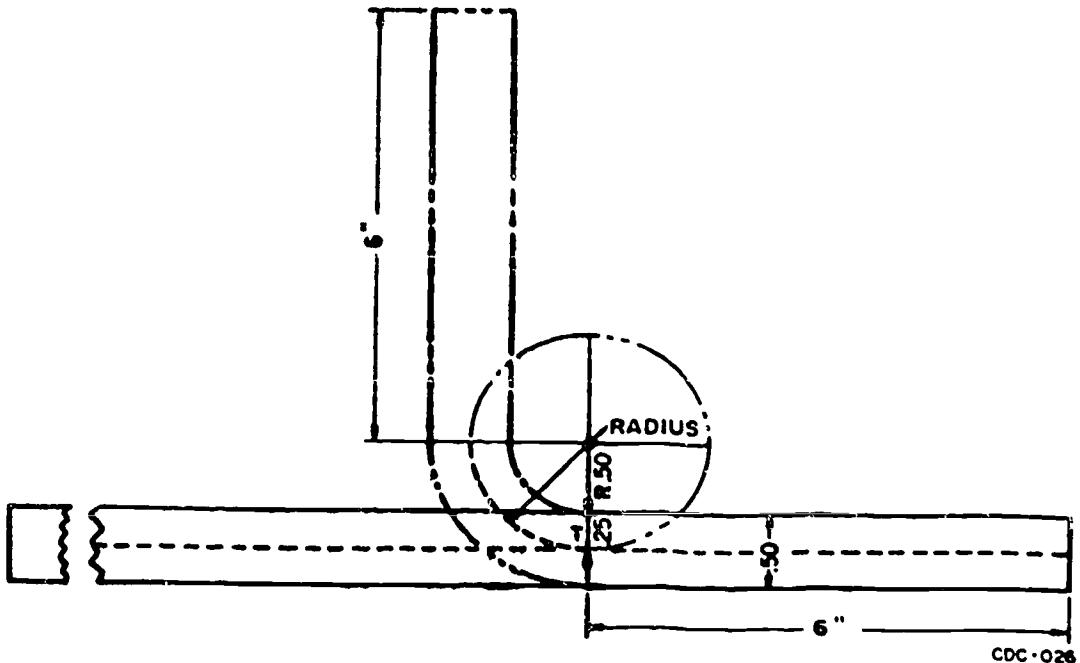

Figure 1-96. Bend allowance and length computation for a 90° L-shaped bracket.
*Example 1* (fig. 1-96). What is the bend allowance for a 90° bend which is to be made in plate that is 1/2-inch thick?